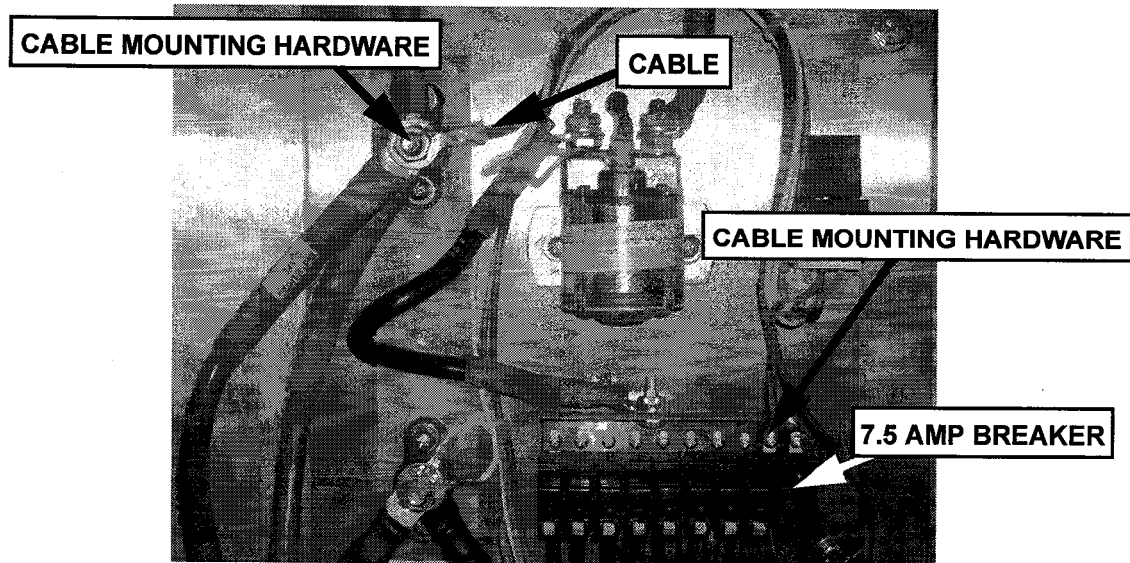

Figure 1-9 Cable Mounting Hardware
1. Remove the cable mounting hardware. See **Figure 1-9**
2. Remove the lower mounting hardware from the breaker bar. See **Figure 1-9**
3. Remove the cable. See **Figure 1-9**
4. Remove the 7.5 AMP breaker from mounting position. Retain for installation. See **Figure 1-9**